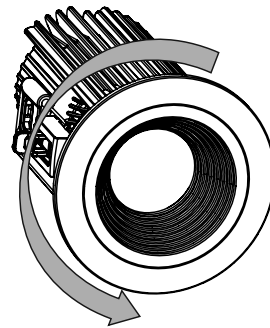
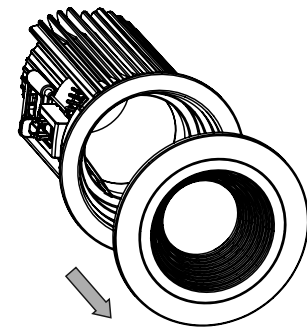

Figure 11
Figure 12
Step 1. Twist trim counterclockwise (Fig.11). The trim and the insert will detach from the module (Fig. 12).